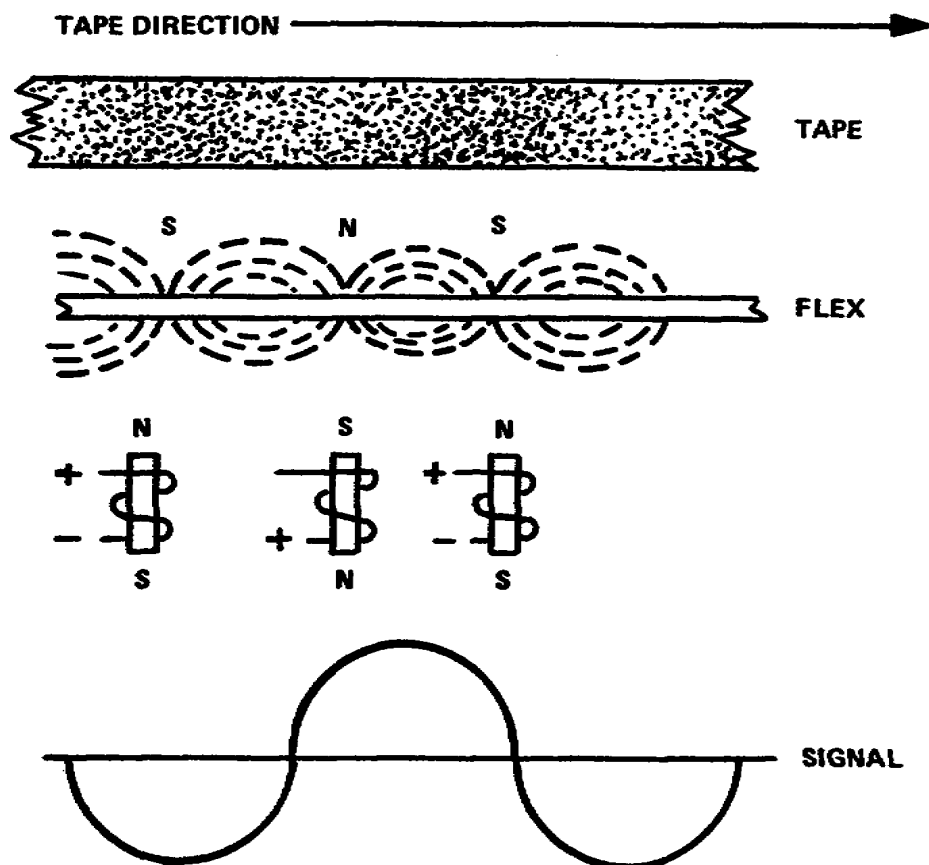

Figure 3-32. Basic operation of recording or reproducing head
(1) Previously recorded signals are erased from a magnetic tape by passing a high frequency current through the erase head (fig 3-32). The tape passes over the erase head before it arrives at the record head. To erase in the record mode, a high frequency signal supplied by the recorder's erase oscillator, feeds current to the erase head. The current causes a strong alternating magnetic field to be developed. This magnetic field returns a previously recorded tape to its original state before being rerecorded.